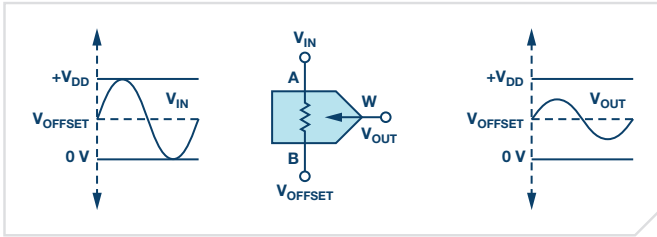

Figure 7. AC signal, single-supply mode.
- ▶ Single-supply: 2.3 V to 33 V (see Figure 7)